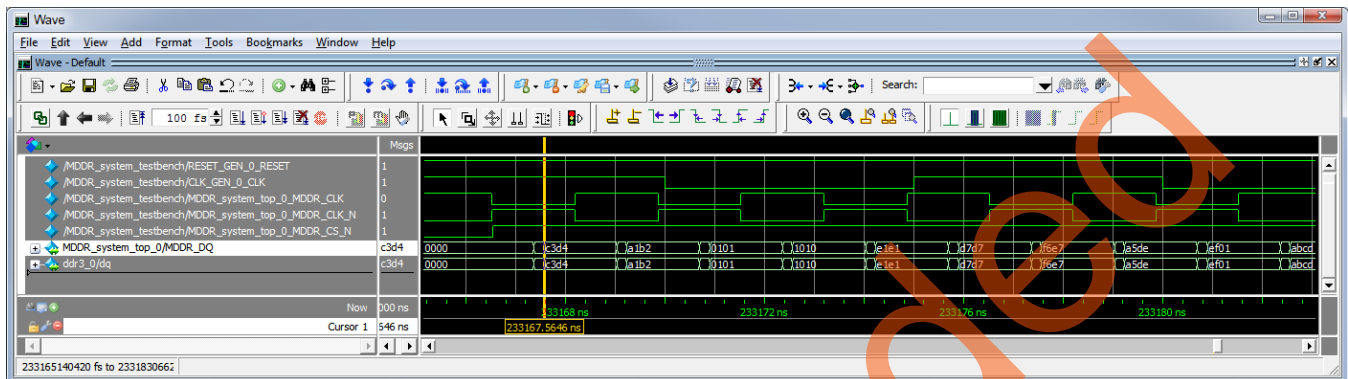

Figure 41. Write/Read Data
4. Place the cursor around 233 ps on the Wave window and click the **Zoom In on the Active Cursor** icon as shown in Figure 40, to zoom in at that location. That shows the time at which the data was written/read-back to/from the DDR3 external modules, as shown in Figure 41.
Figure 41 shows the time at which the data was written/read-back to/from the DDR3 external modules. That concludes this tutorial.